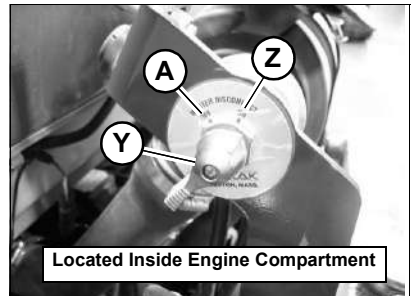

Figure 23 – Optional Battery Disconnect Switch
1. If the machine is equipped with the optional battery disconnect switch (Y, Fig. 23), check that switch (Y) is turned clockwise to the notched position “ON” position (Z).